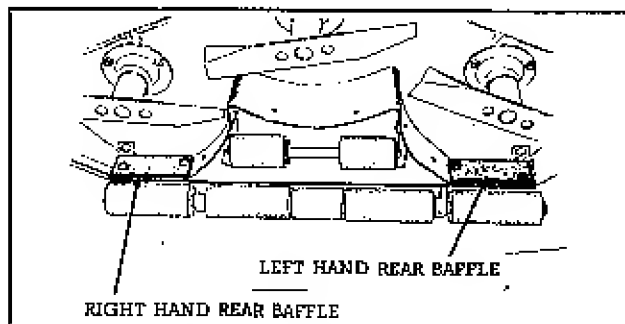

FIG. 5
2. Install the Left Hand and Right Hand Rear Baffle Plates as shown in Figure 5. These baffles are each held in place by 2 carriage bolts, lockwashers, and hex nuts. Note that the lockwashers and nuts are on the exterior of mower housing.